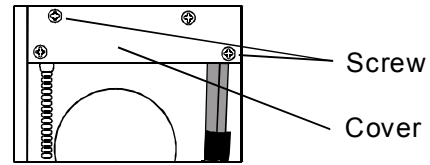

Fig 18
2. Loosen the four screws, remove the terminal board cover. (Fig 18)